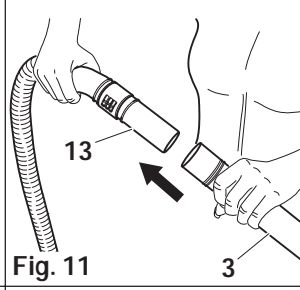
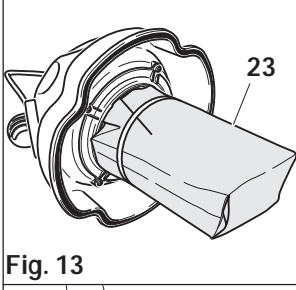
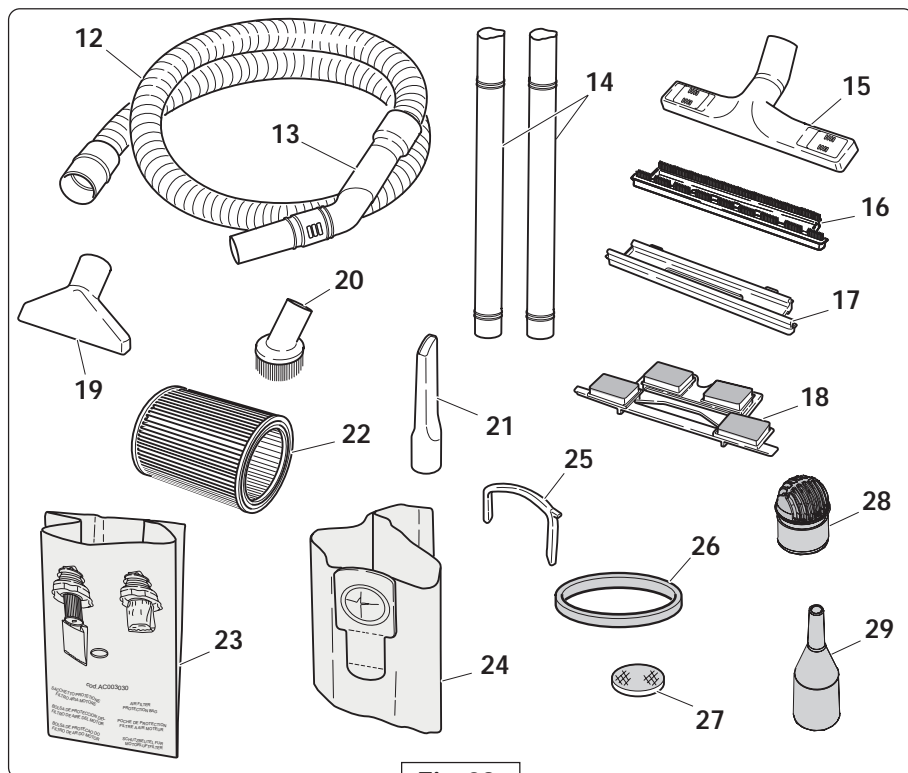

Fig. 11
Fig. 13
Fig. 03
## Supplied Accessories (fig. 03):
**EXTENSION TUBES** (fig. 03 - pos. 14) - Use at will 1 or 2 extension tubes for practicality and ease of use of the appliance. All the accessories can be attached both to the extension tubes or directly to the handle (fig. 11).
**CLEANING HEAD WITH BRISTLES** (fig. 03 - pos. 16) - Use this accessory with the multipurpose nozzle, to vacuum flat surfaces such as marble or tiled floors etc.
**SMALL MULTIPURPOSE NOZZLE** (fig. 03 - pos. 19) - Useful for vacuuming soft surfaces such as lounges, mattresses, cushions, car seats etc.
**TUBE BRUSH** (fig. 03 - pos. 20) - Useful for dislodging and vacuuming dust on all surfaces, furniture, frames etc.
**EXTENSION FOR CORNERS** (fig. 03 - pos. 21) - To vacuum in corners or difficult places such as behind radiators, skirting boards, shutters, etc.
**MOTOR AIR FILTER** (fig. 03 - pos. 22) - To protect the motor from damages due to the vacuuming of dust and debris.
**ATTENTION** : Failure to use the above filter (fig. 03 - pos. 22) will cause serious damages to the motor and involve the automatic invalidation of the warranty.
**AIR FILTER PROTECTION BAG** (fig. 03 - pos. 23) - This protects the motor air filter and for this reason the use is necessary, especially if dusty or bulky debris is to be vacuumed (see First Method of Use).
**ECOLOGICAL DUST BAG** (fig. 03 - pos. 24) - A spacious bag for the collection of dust which keeps the collection tank clean (see Second Method of Use).
**HOLDING BRACKET ACCESSORY FOR ECOLOGICAL DUST BAG** (fig. 03 - pos. 25) - This bracket is needed to hold the ecological dust bag in place.
**RUBBER BAND FOR THE AIR FILTER PROTECTION BAG** (fig. 03 - pos. 26) - It is necessary for holding the air filter protection bag on the motor air filter.
**BLOWING AIR OUTLET FILTER** (fig. 03 - pos. 27) - It cleans further the outlet air from the motor.
**BALLOON INFLATOR** (fig. 03 - pos. 29) - Use this accessory onto the hand grip for inflating balloons by the blowing air output.
**ATTENTION:** You need to use the air filter (fig. 03 - pos. 22).
To vacuum dusty debris, for example plaster, cement, cold ash flour etc. or bulky debris such as wood leaves and saw-dust, use an **Air filter protection bag** (fig. 03 - pos. 23) to be positioned to protect the air filter (fig. 13). With this FIRST METHOD, the debris will pass directly into the collection tank.
For maximum economy and duration of the air filter, it is recommended to always use the air filter protection bag that should be replaced more frequently than the air filter. For better operation of the air filter (fig. 03 - pos. 22), it is recommended to keep it well cleaned. In case of breakage or excessive dirt, the filter must be replaced immediately.
To vacuum dust from: floors, mats, carpet, lounges, mattresses, curtains, etc., use the ecological dust bag (Fig. 03 - pos. 24). The use of this bag allows you to keep the collection tank clean.